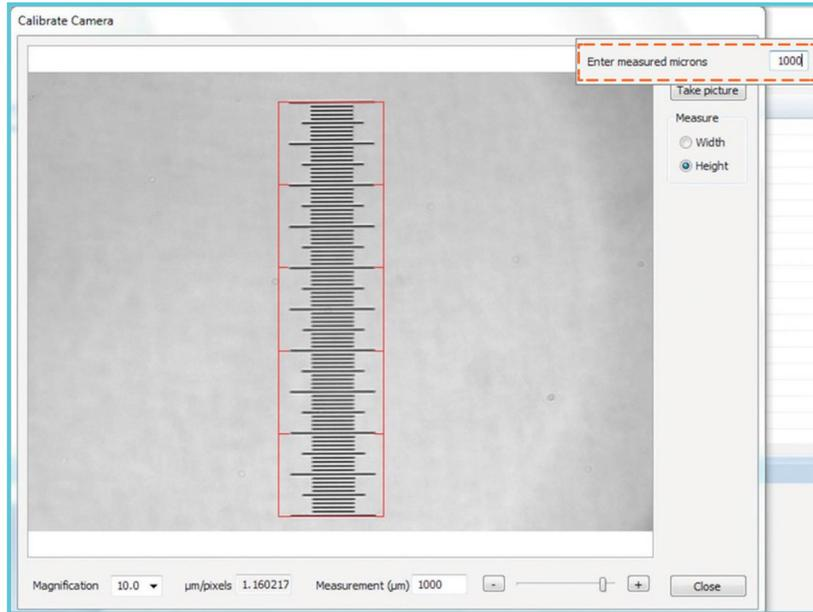

Figure 2.8 Enter measured microns
5. Click on Calibrate and fill in the number of  $\mu$ m the red box covers into the box Enter measured microns. Press the ENTER to save the calibration of the camera; in this case it is 1000 $\mu$ m (see figure 2.8).